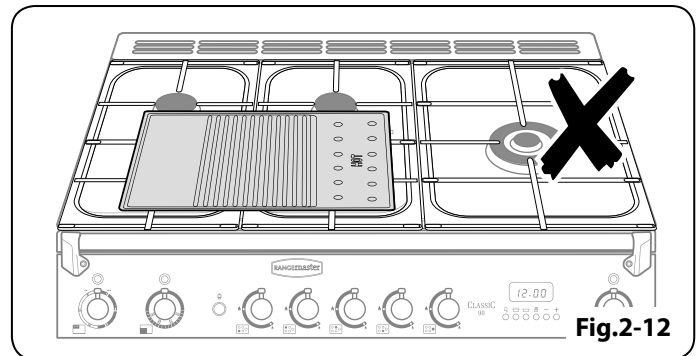

Fig.2-12
**⚠ DO NOT put it on any other burner – it is not designed to fit in any of the other pan supports (**Fig.2-12**).**